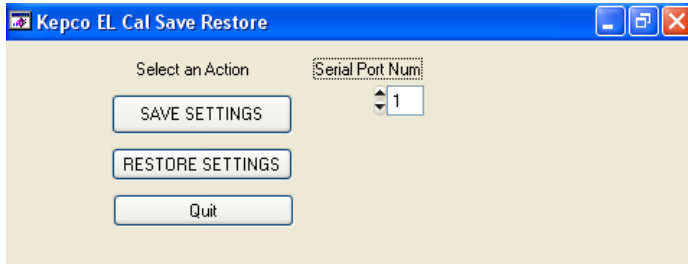

FIGURE 1. KEPSCO EL CAL SAVE RESTORE WINDOW
2. When the **Kepco EL Cal Save Restore** window (Figure 1) appears, select the serial port to which the EL load is connected.